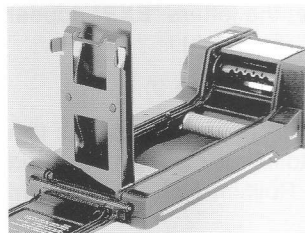

Figure 4
Swing the film pressure plate (10) into a vertical position. The plate engages audibly in this position (Figure 4).
Thread the backing paper leader under the metering roller (9), then pull it through under the return roller (12) (Figure 4).